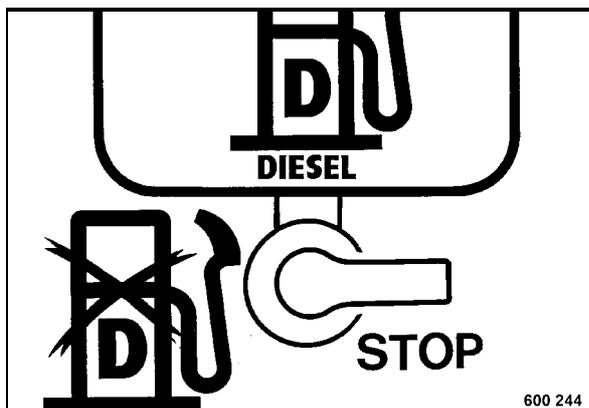

Fig. 37
- Set the fuel valve (Fig. 37) to STOP (closed).